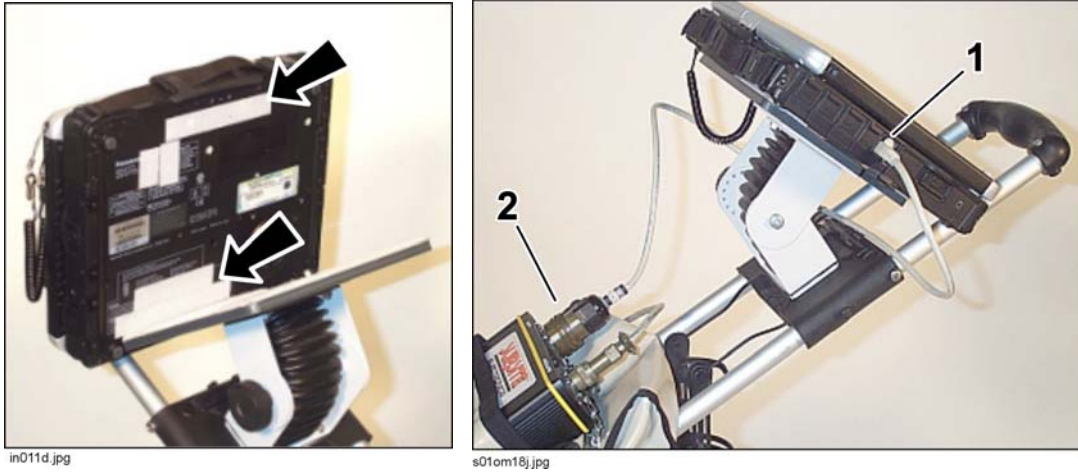

Fig. 4-7 – Mounting the notebook PC
- The notebook PC is secured to the upper base plate on the trolley with nylon hook and pile strips (shown in Fig. 4-7, left).
- Once the notebook is fixed on the plate, connect one end of the inverted network cable to the PC network port (1). Connect the opposite end to the waterproof black connector to the radar port (2) on the control unit.